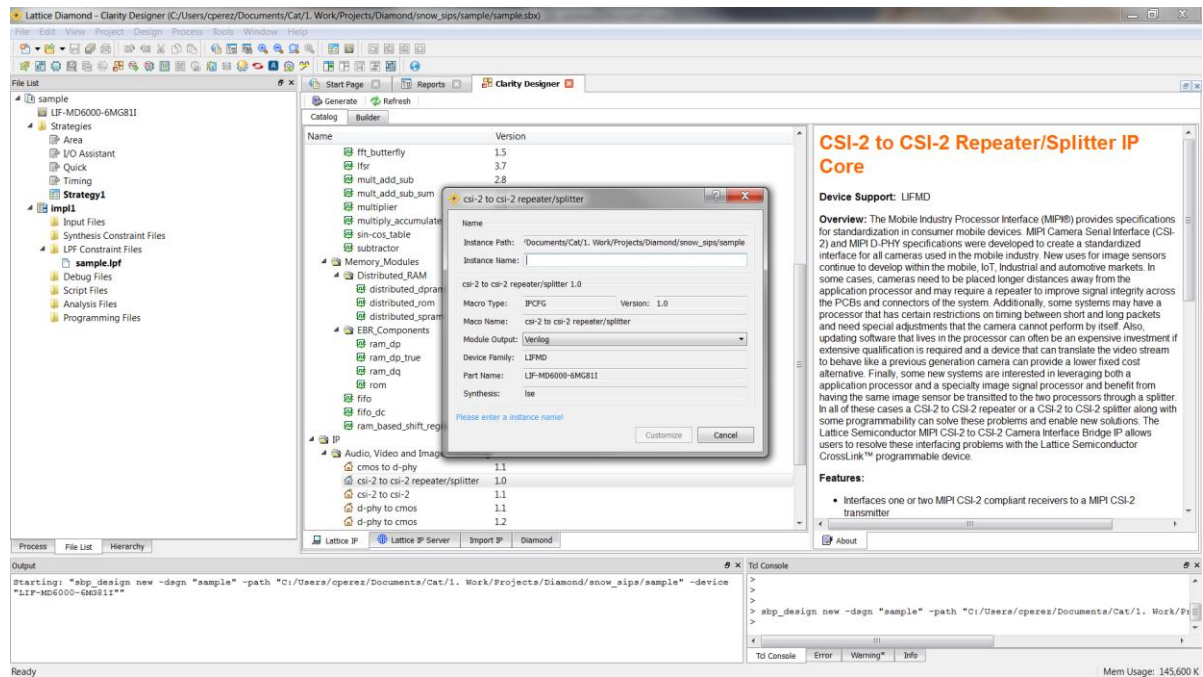

Figure 4.3. Configuring MIPI CSI-2 to CSI-2 Camera Interface Bridge IP in Clarity Designer
1. Double-click **csi-2 to csi-2 repeater/splitter** in the IP list of the Catalog view. The **csi-2 to csi-2 repeater/splitter** dialog box is displayed as shown in Figure 4.3.